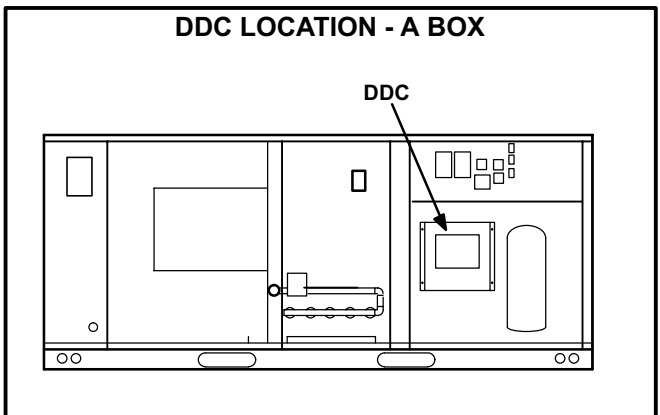
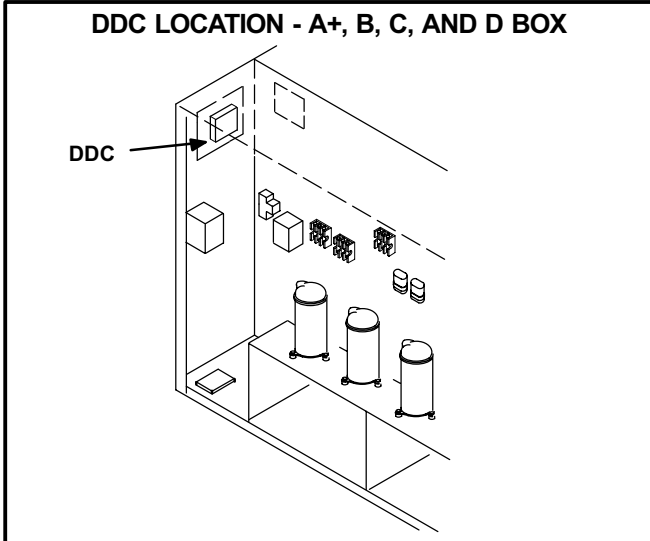

FIGURE 1
FIGURE 2
See figure 1 for location of DDC assembly in A box units. See figure 2 for location of DDC assembly in A+, B, C, and D box units.
- 3- *A Box Units* - Position the DDC assembly beneath the IMC board as shown in figure 1. Secure with four 3/4" sheet metal screws.